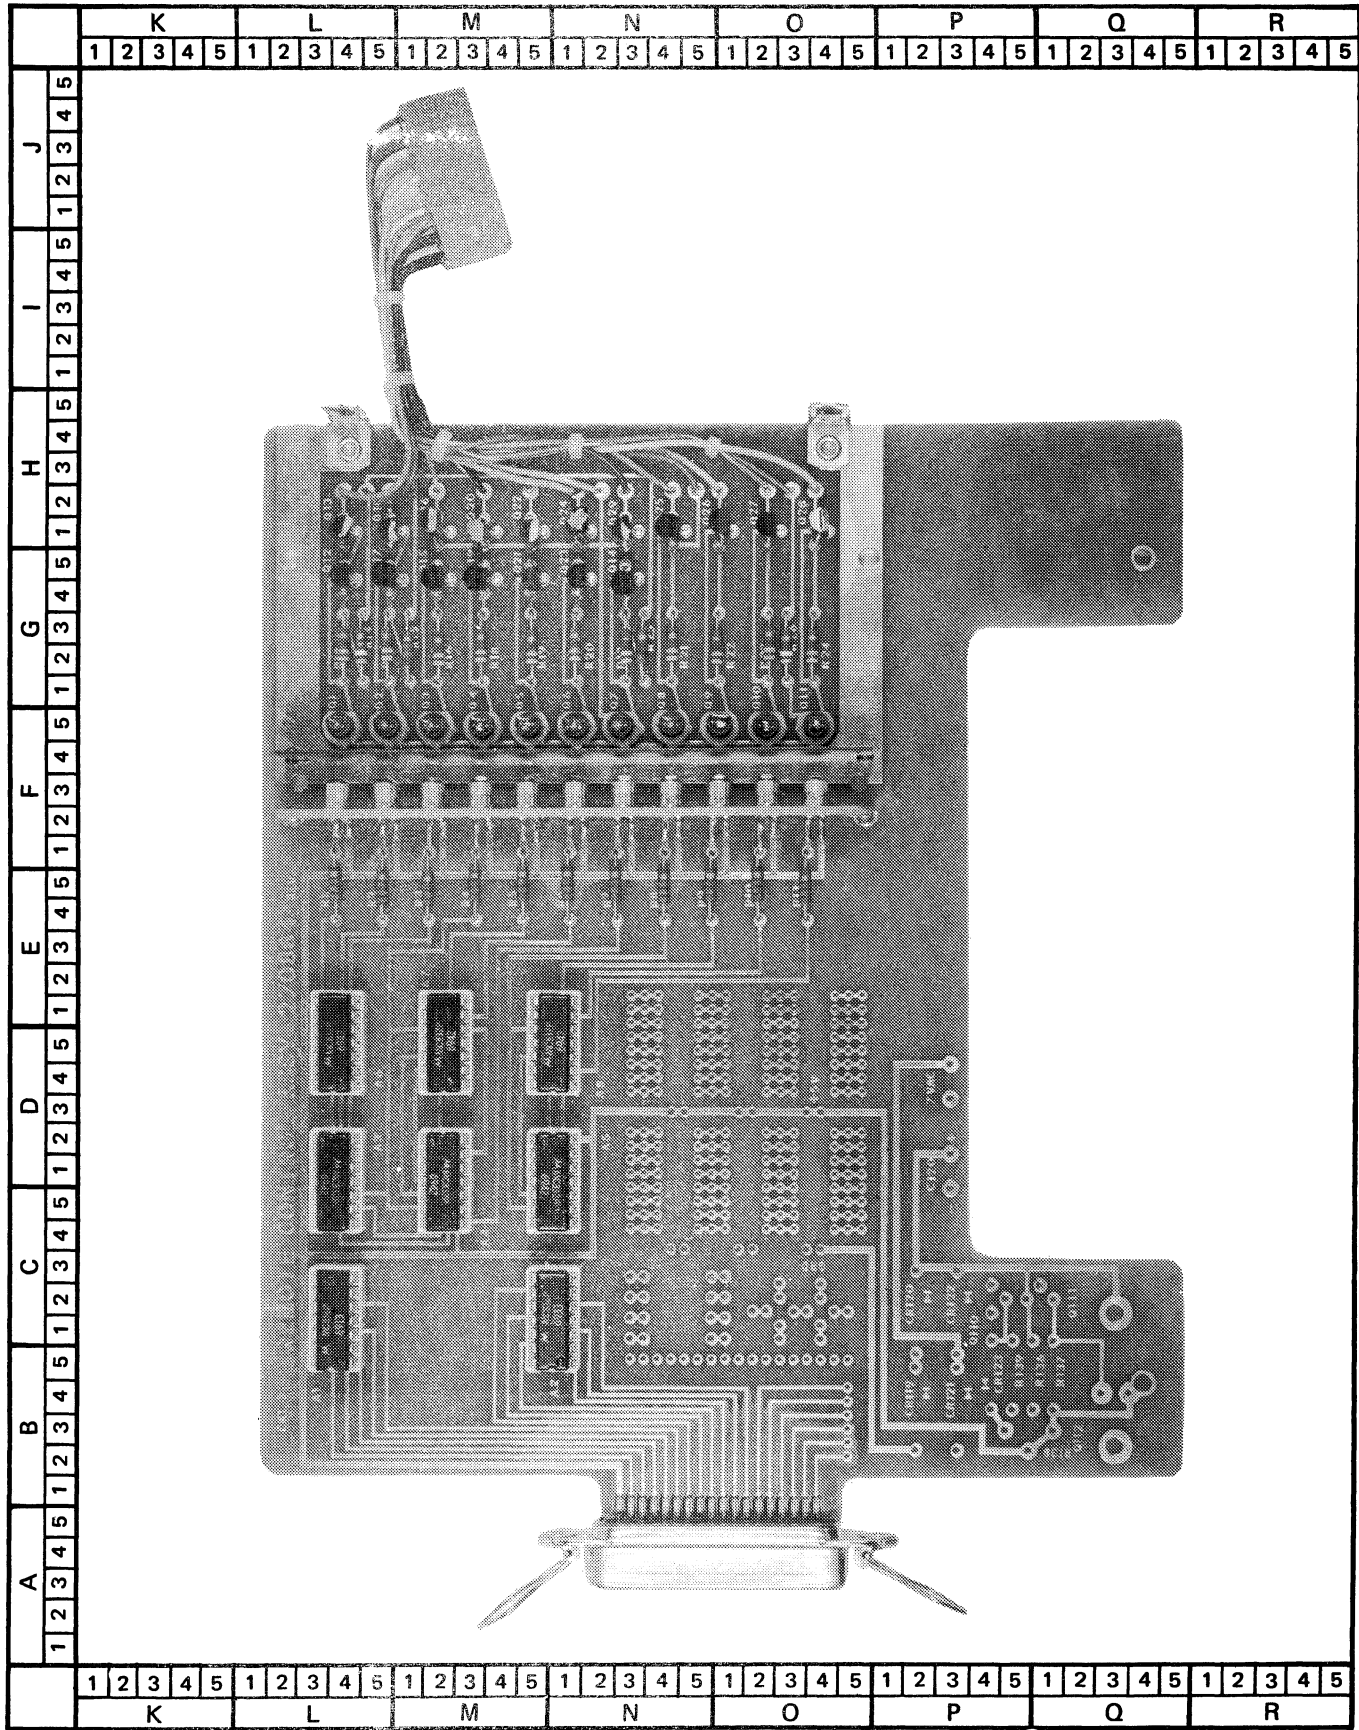

Figure 6-5. REMOTE CONTROL P/C ASSEMBLY
| | | DIGITAL VOLTMETER - REMOTE CONTROL OPTION NOTE: The basic Model 8300A can be modified in the field by installing the Remote Control Unit Option Kit (8300A-04K) order by Model and Option No. (8300A-04K). Digital Option Enclosure (Not included in kit. Must be ordered as separate item if -03 Data Output Option is not not installed.) Remote Control P/C Assembly (See Figure 6-5) | 8300A-04 | | | | | |
- a. Connect the dc voltage source to the Model 8300A as shown in Figure 6-5.
- c. Connect equipment as shown in Figure 6-5.